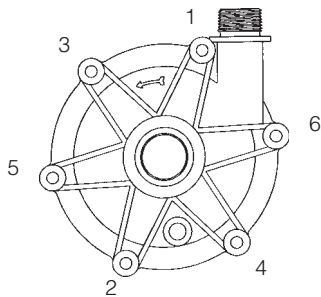

Figure 3
5. Place wet end assembly (comprised of items 1-9) into the motor adapter (item 11). Grasping the barrier at opposite bolt tabs, carefully lower the wet end assembly into the motor adapter/drive assembly. Line up the tabs of the wet end between the tabs on the motor adapter to avoid pinching fingers. Once seated, rotate the wet end until bolt holes line up.
6. Align mounting holes and install 6 mounting screws and washers (items 12A, 12B & 12C) from hardware package. Hand tighten screws using pattern shown in Figure 3.
1. If possible, set motor on fan cover with drive magnet assembly facing up. Place the second stage impeller assembly (comprised of items 2 and 8) into the barrier (item 9). Grasping the barrier at opposite bolt tabs, carefully lower the barrier assembly into the motor adapter (item 11). Line up the tabs of the barrier between the tabs on the motor adapter to avoid pinching fingers. Once seated, rotate the barrier until the bolt holes line up.
2. Install the housing o-ring (item 4) on the barrier. Lubricate the o-ring with a compatible lubricant to facilitate o-ring installation.
3. Install the second stage impeller housing (item 7) onto the barrier being careful not to dislodge the o-ring. Align the bolt hole tabs and gently press together (bolt clearance alignment is critical).
4. Install and lubricate the diffuser o-ring (item 6). Install the diffuser assembly (item 5) making sure to keep bolt clearance alignment straight and making sure not to dislodge the o-ring.
5. If the first stage impeller drive shaft (item 3) was replaced, reassemble it to the impeller assembly by matching the three tabs on the end of the drive shaft with the three recessed slots in the impeller assembly (item 2) and press together.
7. Install and lubricate the housing o-ring. Coming straight down, gently place the impeller housing (item 1) onto the pump with the ceramic front spindle support sliding into the bushing on top of the first stage impeller assembly (items 2 and 3). Orient the housing with the directional arrow on top, the drain boss location on the bottom and with the mounting holes aligned. Install the six mounting bolts, washers, and lock washers (items 12A, 12B, and 12C). Make sure the housing o-ring is not dislodged or pinched. Hand tighten the mounting bolts to pull the pump together using the pattern shown in figure 3.
8. After the housing is tightened down, insert a screwdriver into the suction and push down on the front of the first stage impeller assembly (**Note:** Do not press on gray thrust ring) to completely set the impeller drive shaft (item 3) into the second stage impeller (item 8). Push firmly on the three areas separated by the spindle support arms in the suction. Rotate the motor fan to verify nothing is rubbing.
9. **56C frame pumps.** Carefully slide the pump assembly over the drive magnet assembly. Orient the discharge port to either the 12 or 9 o'clock position. Make sure the rabbet on the motor is fully seated into the motor adapter (item 11). Align the bolt holes in the motor adapter and the motor. Install 4 bolts and washers (items 14A, 14B, 14C) and tighten securely.